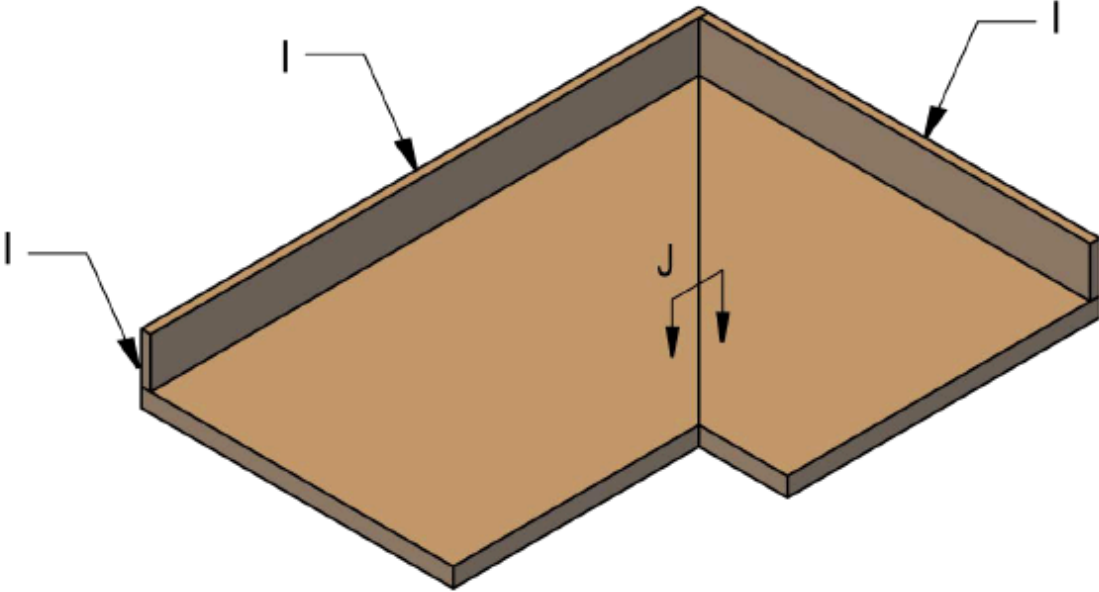

Figure 52 - Flushness at Butted Edges
- h) Flushness at butted edges (See Figure 52, I) shall not exceed: